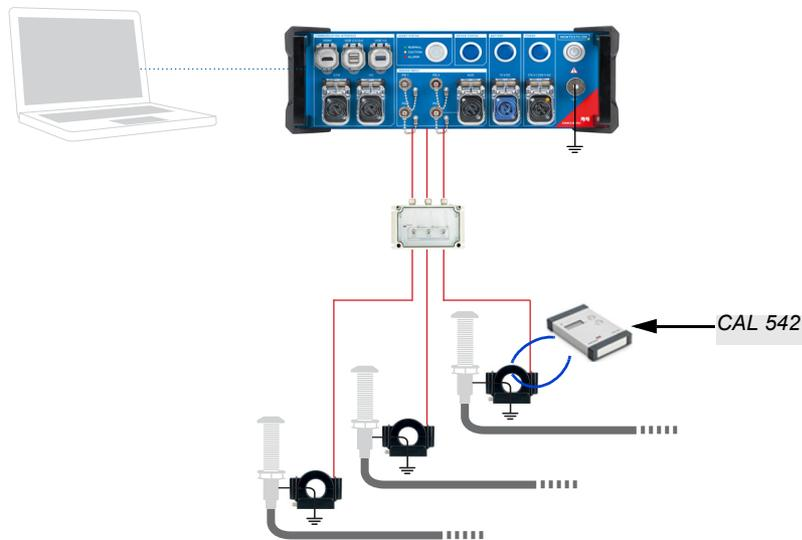

Figure 3-39: Normalization using HFCT sensors
1. Connect a calibrator (for example, *CAL 542*) to one of the HFCTs (see Figure 3-39: "Normalization using HFCT sensors") by feeding a loop through the HFCT core.